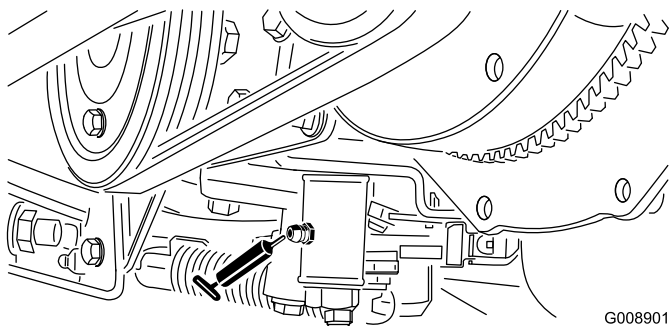

Figure 54
- Neutral adjust mechanism (Figure 54)